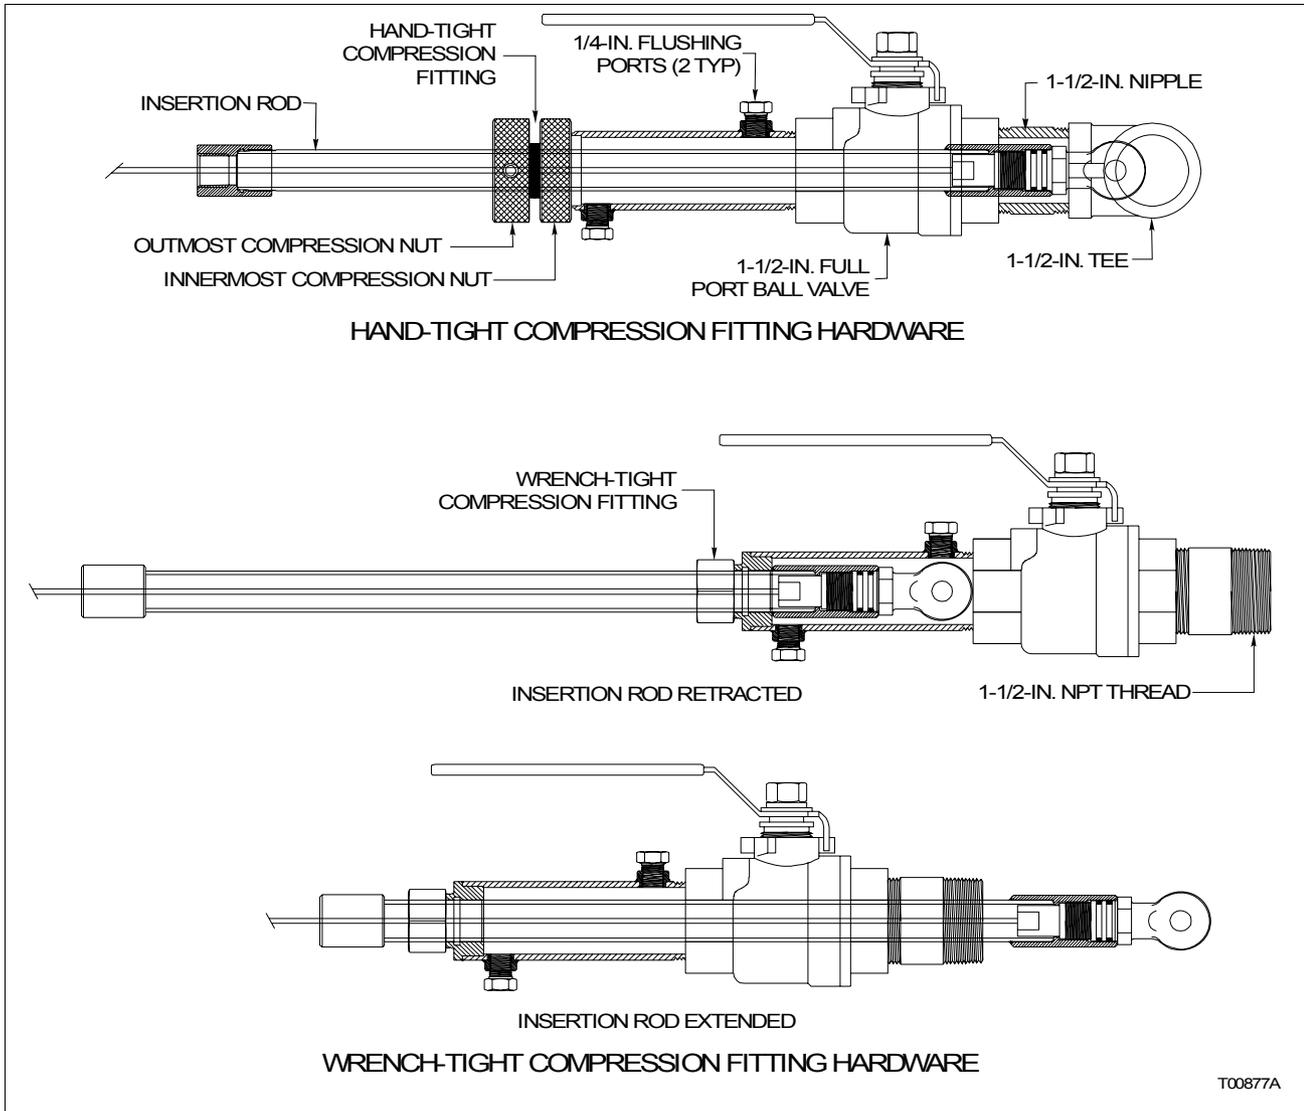

Figure PR5-1. Low Pressure Hot Tap Assemblies
-  1. Firmly grasp the insertion rod assembly and loosen the compression fitting (Fig. PR5-1).
-  4. Relieve the internal pressure in the compression fitting body or extraction housing (Fig. PR5-1) by opening one of the two ¼-inch flushing ports.